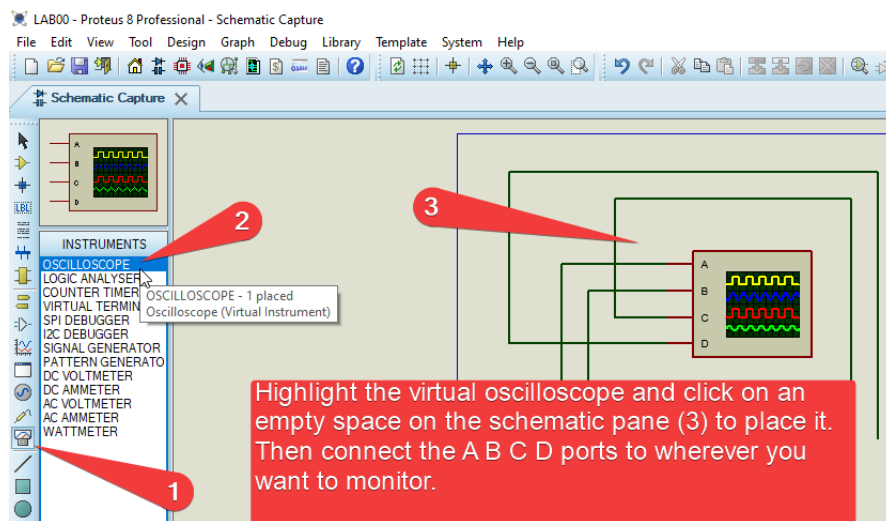

Figure 1: How to add Digital Virtual Oscilloscope to your Proteus projects. You can check the video[[1]].
**Note:** Digital Virtual Oscilloscope Instrument in Proteus, check Figure 1 for how to add this to your Proteus project.